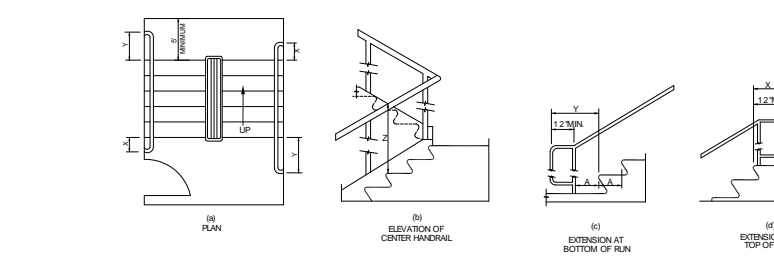

FIG. 19 STAIR HANDRAILS. N.T.S.
- (1) HANDRAILS SHALL BE CONTINUOUS ALONG BOTH SIDES OF STAIRS. THE INSIDE HANDRAIL ON SWITCHBACK OR DOGLEG STAIRS SHALL ALWAYS BE CONTINUOUS (SEE FIG. 19)(a) & (b)).
- (2) IF HANDRAILS ARE NOT CONTINUOUS, THEY SHALL EXTEND AT LEAST 12" (305mm) PLUS THE WIDTH OF ONE TREAD BEYOND THE BOTTOM RISER. AT THE TOP, THE EXTENSION SHALL BE PARALLEL WITH THE FLOOR OR GROUND SURFACE. AT THE BOTTOM, THE HANDRAIL SHALL CONTINUE TO SLOPE FOR A DISTANCE OF THE WIDTH OF ONE TREAD FROM THE BOTTOM RISER. THE REMAINDER OF THE EXTENSION SHALL BE HORIZONTAL (SEE FIG. 19)(c) & (d)). HANDRAIL EXTENSIONS SHALL COMPLY WITH 4.8.
- (3) THE CLEAR SPACE BETWEEN HANDRAILS AND WALLS SHALL BE 1-1/2" (38mm).
- (4) GRIPPING SURFACES SHALL BE UNINTERRUPTED BY NYLON POSTS, OTHER CONSTRUCTION ELEMENTS, OR OBSTRUCTIONS.
- (5) TOP OF HANDRAIL GRIPPING SURFACE SHALL BE MOUNTED BETWEEN 30" & 34" (760mm & 863mm) ABOVE STAIR NOSINGS.
- (6) ENDS OF HANDRAILS SHALL BE EITHER ROUNDED OR RETURNED SMOOTHLY TO FLOOR, WALL, OR POST.
- (7) HANDRAILS SHALL NOT ROTATE WITHIN THEIR FITTINGS.